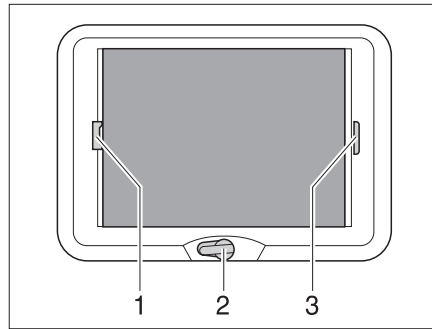

Fig. 89 Wind-up skylight
- Rotate the hand crank (Fig. 89,2) until a resistance can be felt (max. opening angle 70°).
- Pull the handle of the Roman shade (Fig. 89,3) and release in the desired position. The Roman shade will stay in that position.
- Pull insect screen at the handle (Fig. 89,1) to the opposite handle of the Roman shade (Fig. 89,3) and allow to engage.
- Press the handle of the insect screen (Fig. 89,1) at the back upwards and detach the insect screen from the Roman shade (Fig. 89,3).